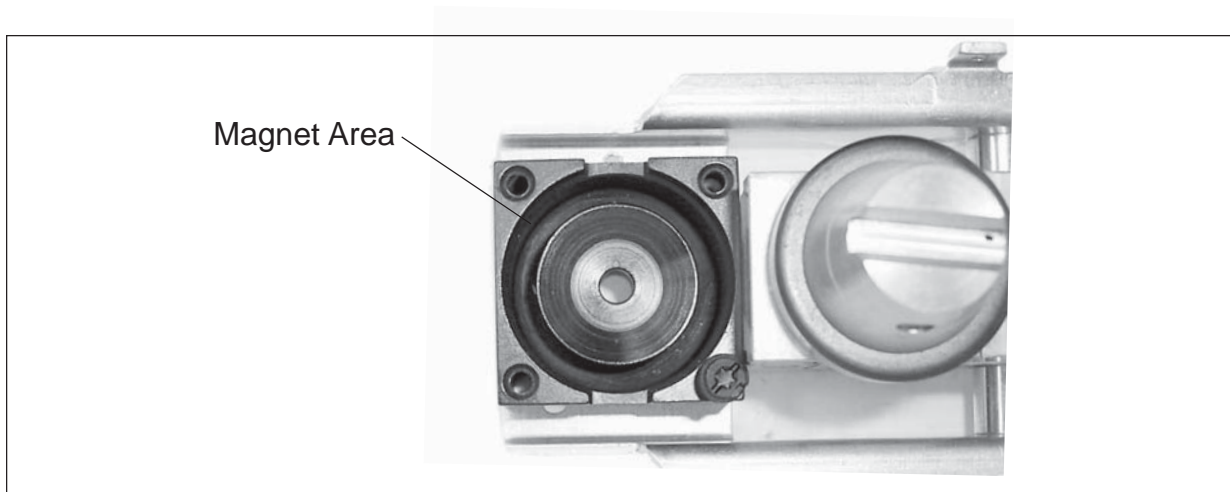

Figure 3-59. Load Cell Magnet Area.
3. Refer to Figure 3-59 and check and clean the Magnet area. To clean, use a small wooden stick with double-sided tape to remove any debris.